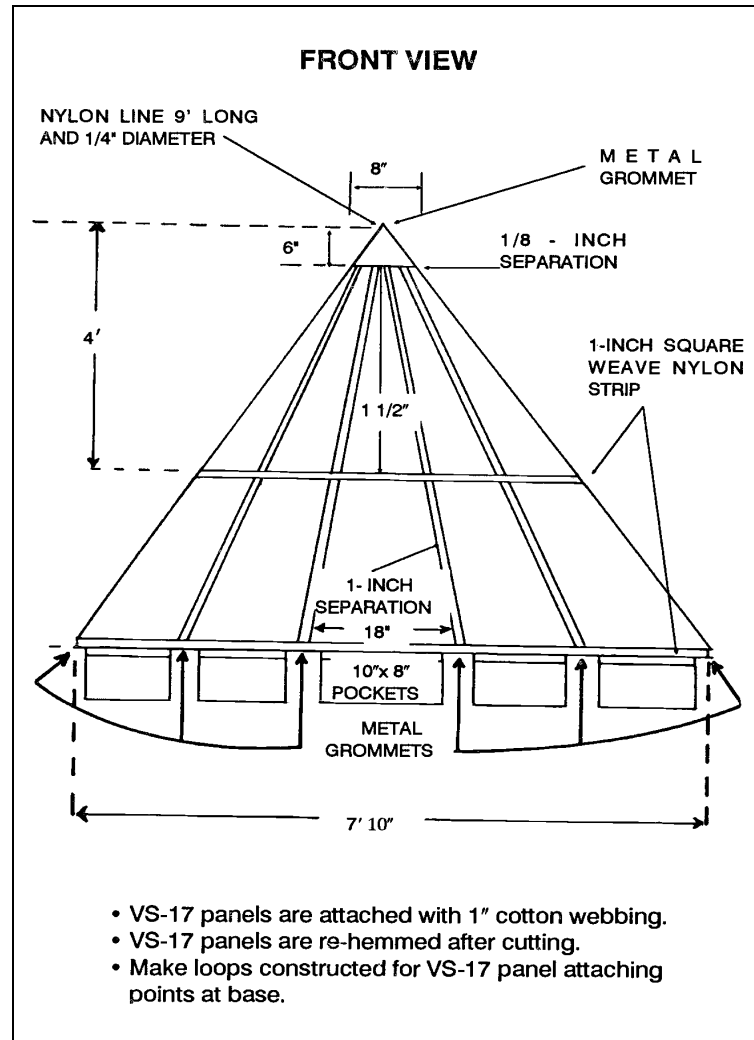

Figure 6-5. Raised-angle marker.
d. **Raised-Angle Marker.** This locally constructed RAM marks the PI on CARP DZs. It consists of five VS-17 panels (Figure 6-5, page 6-15).